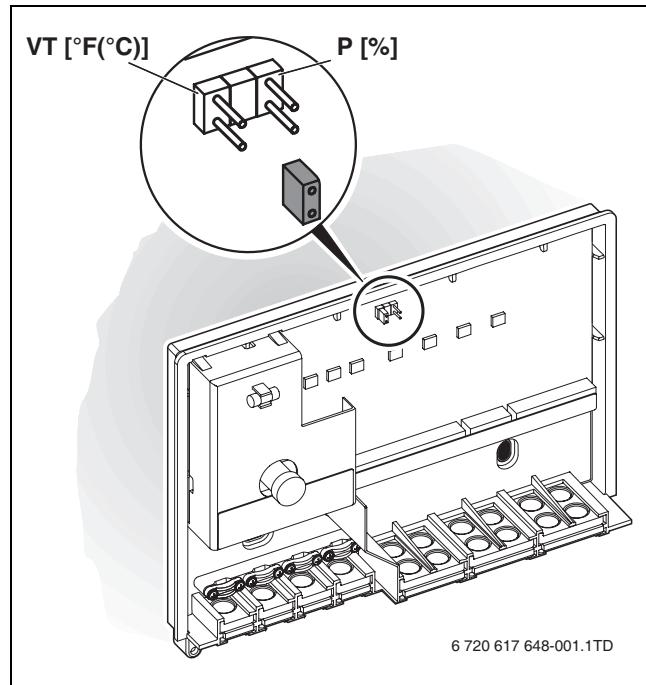

Fig. 4 Setting the jumper
- ▶ Set the jumper to the right position (→ fig. 4).
- ▶ Set the jumper to the left position (→ fig. 4).